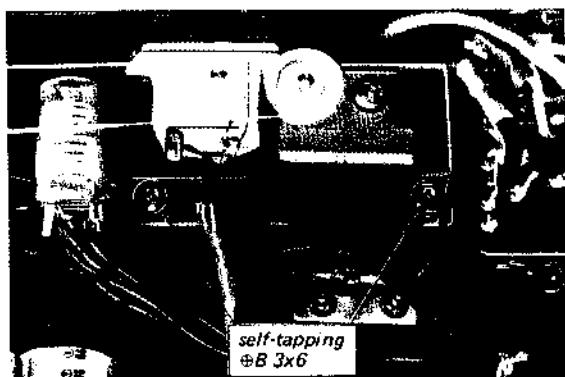

Fig. 2-15. Meter holder replacement
3. Remove the two self-tapping screws ($\#B\ 3\times6$) securing the meter holder to the chassis as shown in Fig. 2-15.